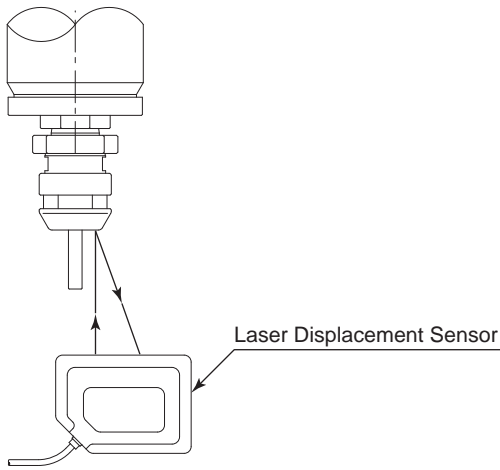

Fig. 14
* After installing the Collet Holder to the Spindle, the Collet Holder alignment can be checked utilizing a Laser Displacement Sensor as illustrated in Fig. 14.